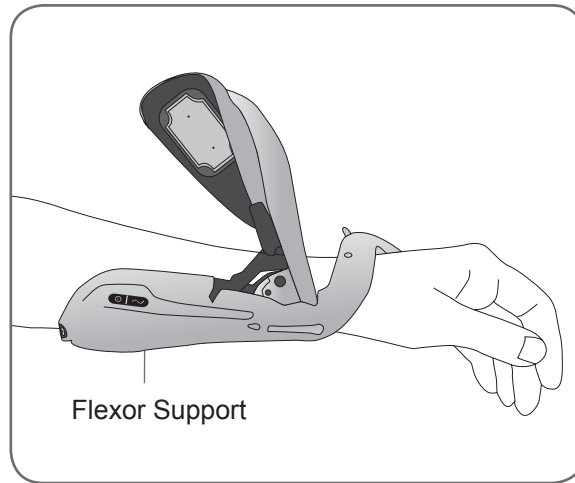

Figure 8-11: Positioning the flexor support.
3. Place your forearm in the Orthosis flexor support. See Figure 8-11.